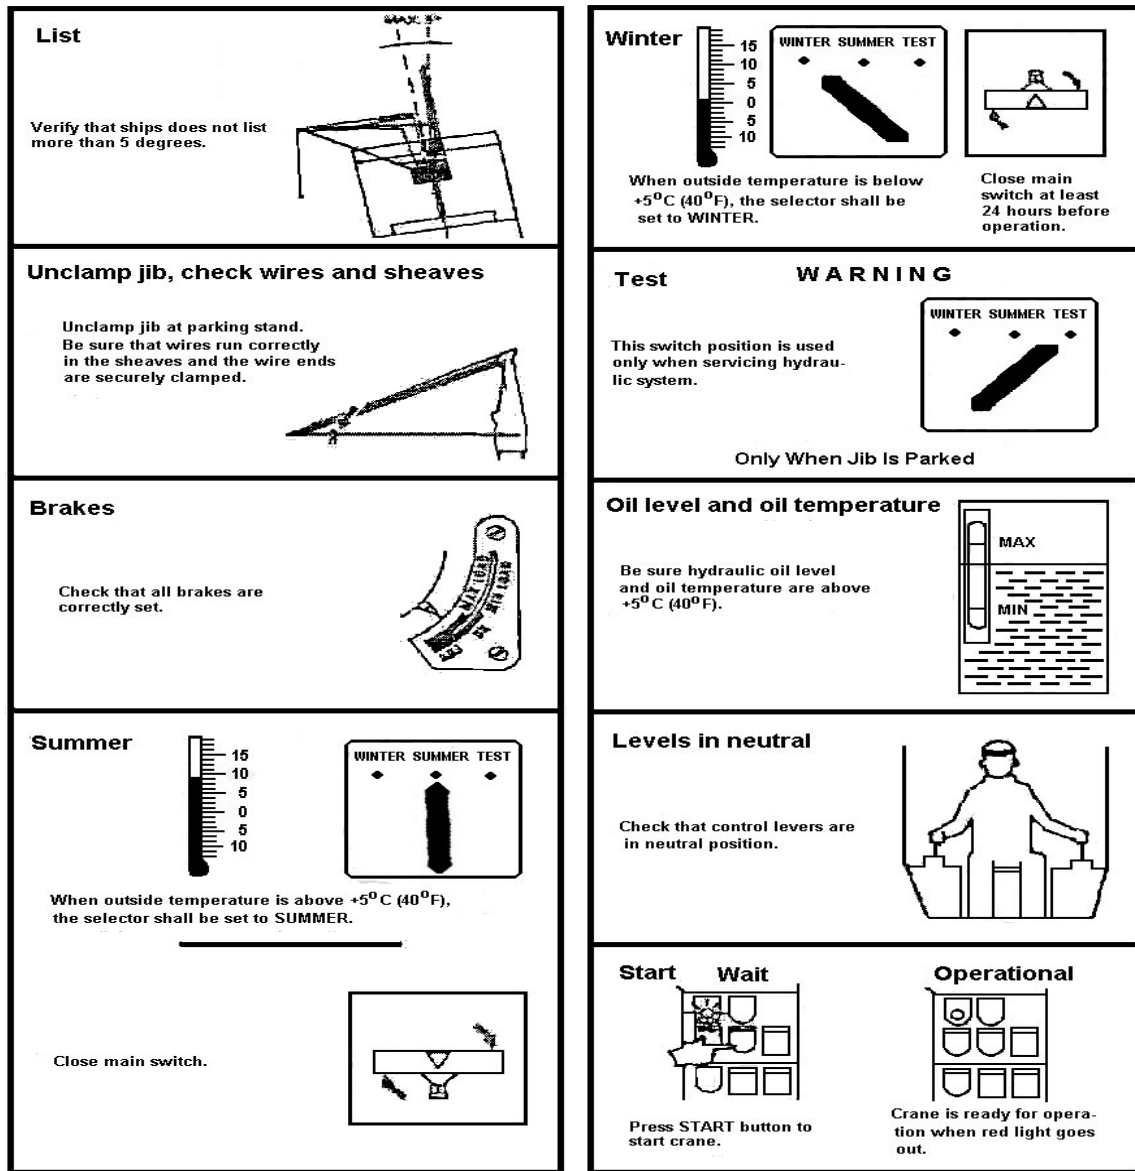

Figure 3-43
1. Perform pre-operational checks on the Hagglands crane (see Figure 3-43).